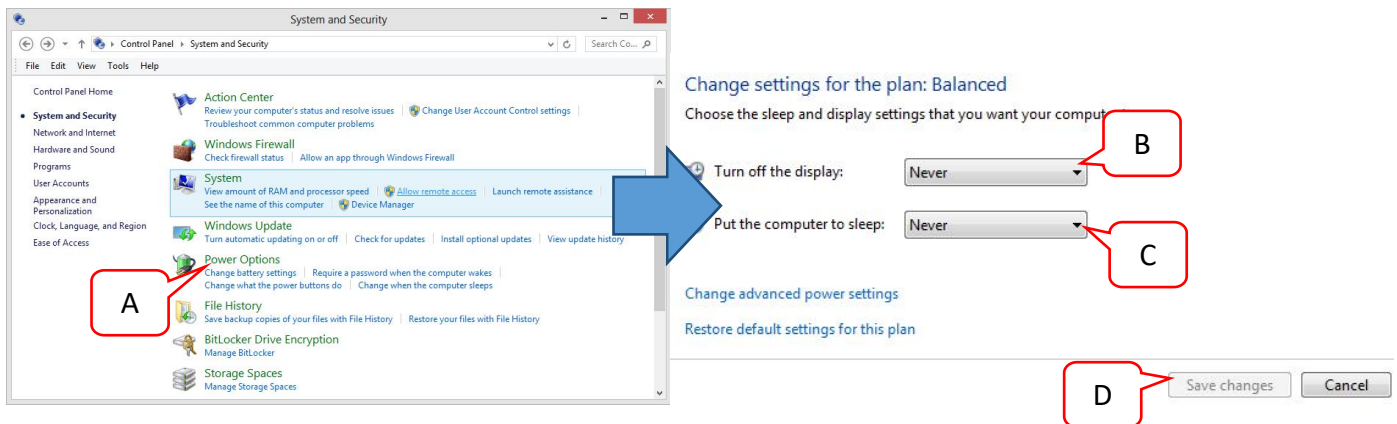

Figure 16 Power Option
1. Go to Control Panel, at the “Network and Internet” tab, select the “View network status and tasks”, click Enter then select “Change adapter setting” as Figure 16.